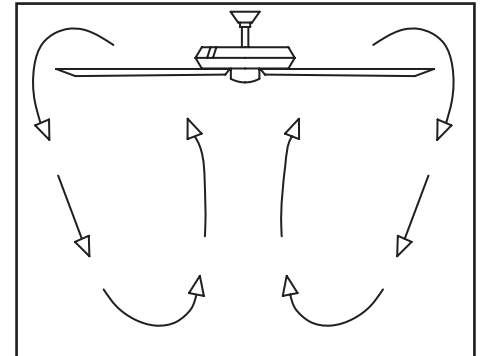

Figure 17
**Cool weather** - (Reverse) An upward air flow moves warm air off the ceiling as shown in Figure 17. This allows you to set your heating unit on a lower setting without affecting your comfort.